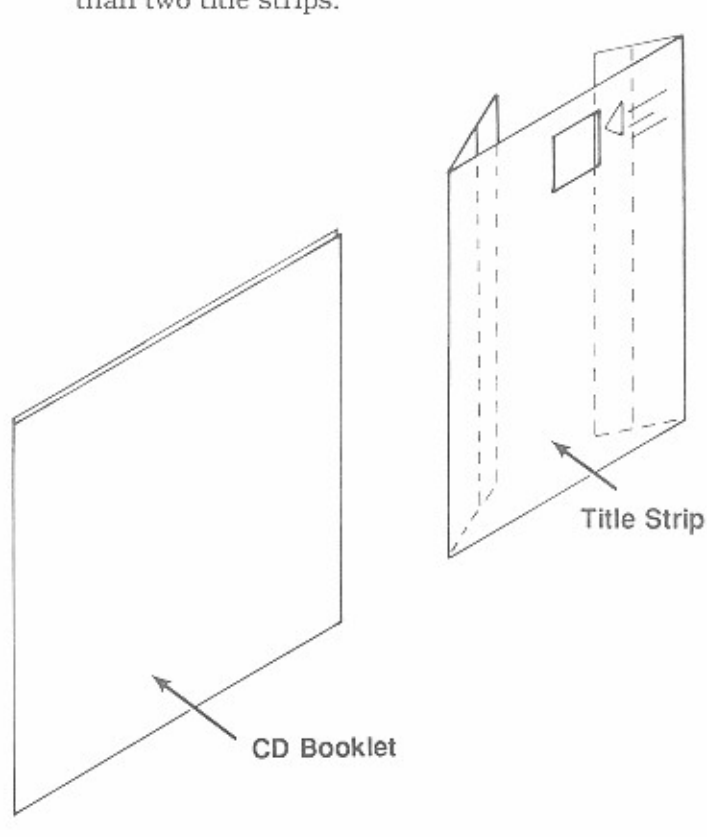

Figure 2-3. Folding The Title Strip
2. Fold the title strip along the inner most perforated line on both sides of the title strip (see *figure 2-3*).